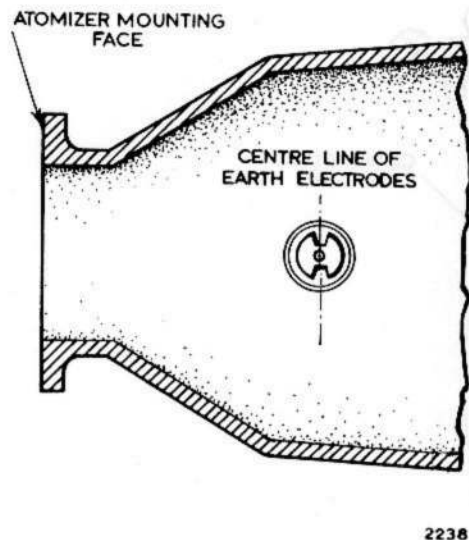

Fig. 5 Orientation of igniter plug.
- (1) Remove the transportation nuts and bolts, then separate the plug cap from the plug body.
- (2) Position the gasket on the plug body, then insert the body with the earth electrodes positioned at right-angles to the starter axis as shown in fig. 5.
- (3) Position the plug cap, orientated as noted in para. 32 on the body and secure with the bolts and tabwashers.
- (4) Torque tighten the bolts to the specified figure and lock by bending up the tabwashers.